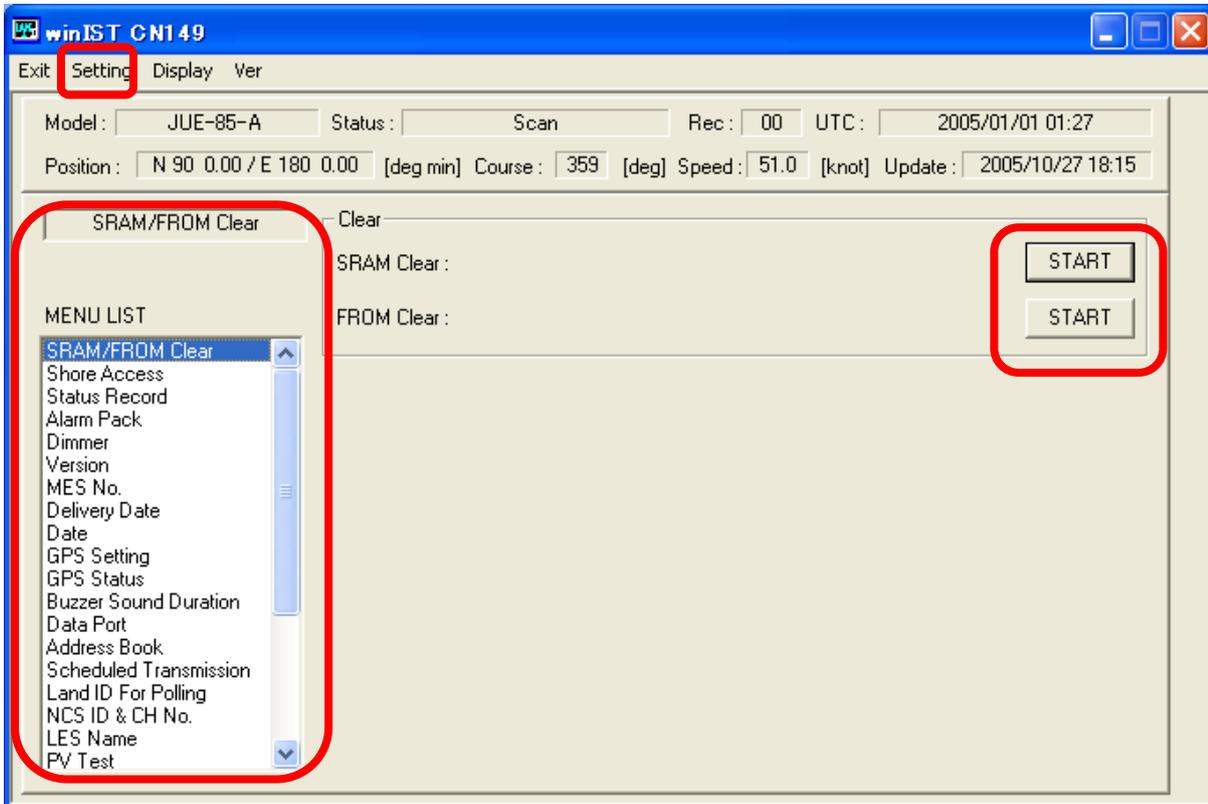

Fig. 4-2a [SRAM/FROM Clear] screen
- 2.Operation except [Exit], [Display], and/or [Ver] is not possible while winIST is communicating with INMARSAT terminal(the function in the frame of **Fig. 4-2a** **[SRAM/FROM Clear] screen** cannot be operated.)